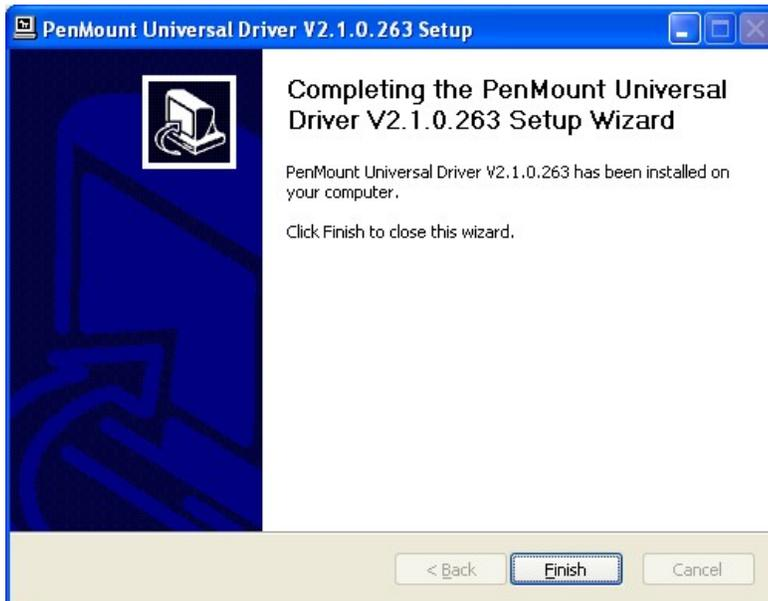

Figure 7-21: Touchscreen Driver Update Complete
Step 12: When the installation is complete, click **FINISH** to exit setup. (Figure 7-21).